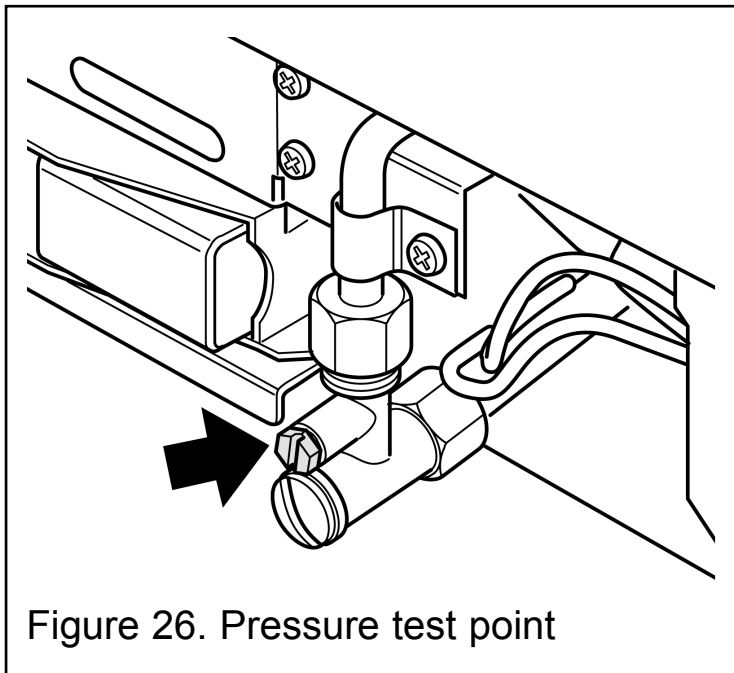

Figure 26. Pressure test point
1. Check the inlet pressure by fitting a pressure gauge at the test point. The test point is on the inlet 'T' connector. See figure 26. Check the pressure with the appliance alight and set at maximum output.